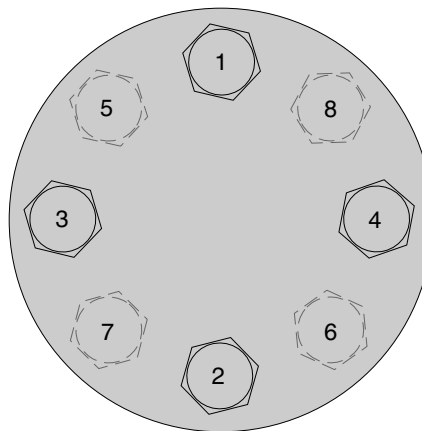

FIGURE 4 - BOLTING SEQUENCE FOR 4 AND 8 BOLT FLANGES
14. Use gaskets to make all flanged connections. Gasketing material must be suitable for use with the pressure, temperatures and fluids in the system. Flexible graphite gaskets are suited for most applications. Recommended gasket thickness is 1/10 - 1/8 inch. Ensure that all bolts are tightened evenly and to the torque recommended values provided by the gasket manufacturer. Refer to Tables 4 - 7 and Figure 4 for guidelines.